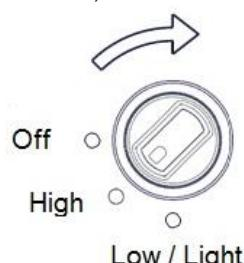

Figure 2
- a) Turn gas control to high position (*Refer to Figure 2*).